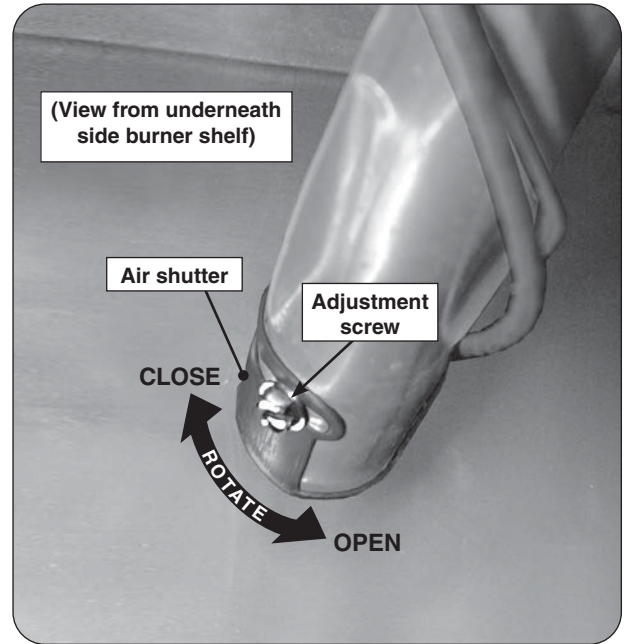

Fig. 50-1 Side burner air shutter adjustment detail
2. Loosen the adjustment screw with a flathead screwdriver, then carefully rotate the shutter to open or close it. See Fig. 50-1 for details.